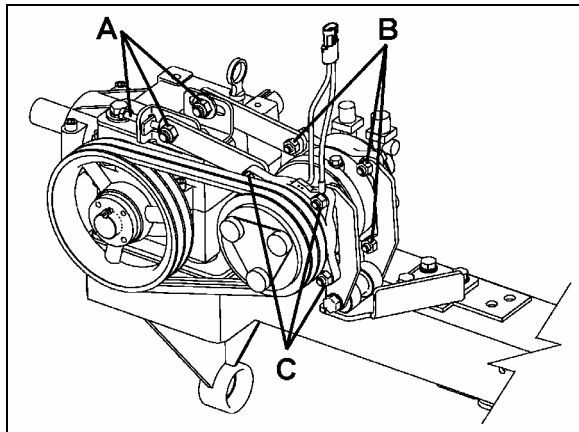

FIGURE 39: COMPRESSOR REMOVAL OR INSTALLATION
- * Slacken bolts A (Refer to figure 39).
- * Remove bolts B & C (Refer to figure 39).